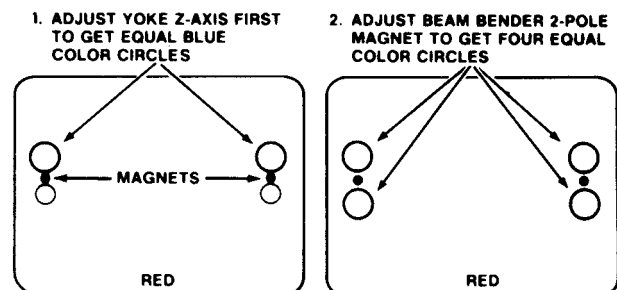

Fig. 3 - Purity Adjustment With Registration Offset Via Screen Magnets
4. Replace the yoke on the picture tube neck, temporarily remove the three (3) rubber wedges from the bell of the picture tube and then slide the yoke completely forward.
- e. Turn the receiver on and obtain a red raster by shorting JW418 to ground, increase the red bias control (CW) and decrease the bias controls for the remaining two colors (CCW).
- f. Attach two (2) round magnets on the picture tube screen at 3 o'clock and 9 o'clock positions, approximately one (1) inch from the edge of the mask (use double-sided tape).
8. Referring to Figure 3, perform the following two steps: